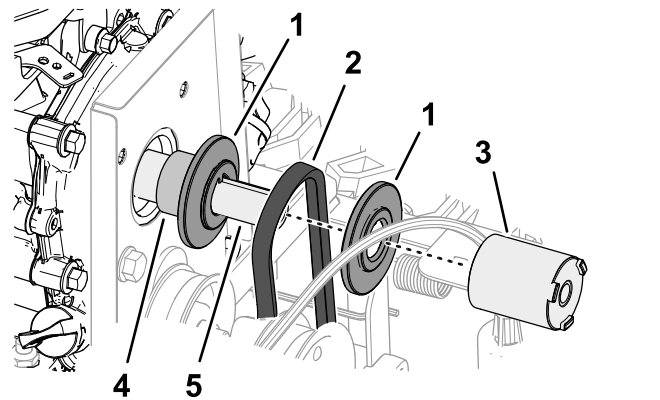

Figure 50
2. At the top of the machine, align the traction belt into the groove of the traction pulley, and slip the traction belt over the crankshaft of the engine (Figure 50).